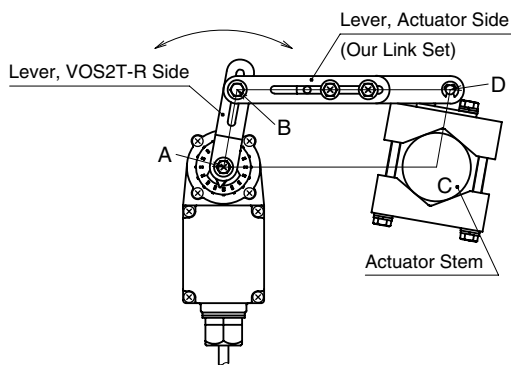

Figure 2
The VOS2T-R and the actuator respectively must be positioned so that the distance between the centers of VOS2T-R shaft and the actuator stem (A – C) be equal to the length of the actuator lever (B – D) as in Figure 2.
2) For using levers to link, loosen the VOS2T-R side nut and washer and set the connecting pin (or bolt) position relative to other components so that the distance A - B and C - D is the same. See Figure 2. Tighten the nut and washer.